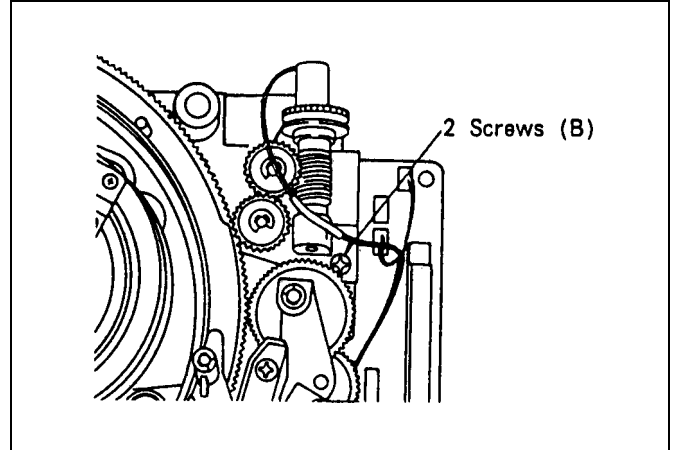

Figure 7-13-3 Loading Motor Base Unit Removal
2. Unscrew 2 screws (B) and remove sensor P.C.Board as shown in figure 7-13-3.